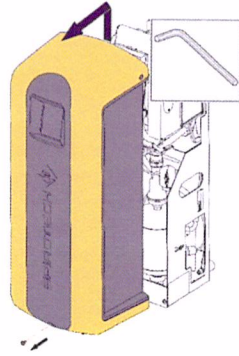
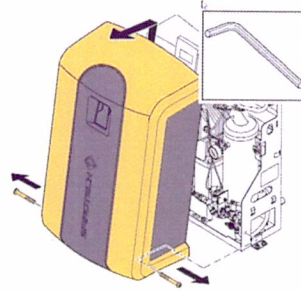

Figure 2: Remove cover S400
Figure 3: Remove cover S600
- 1) Remove the cover: see figure 2 (S400) or figure 3 (S600).